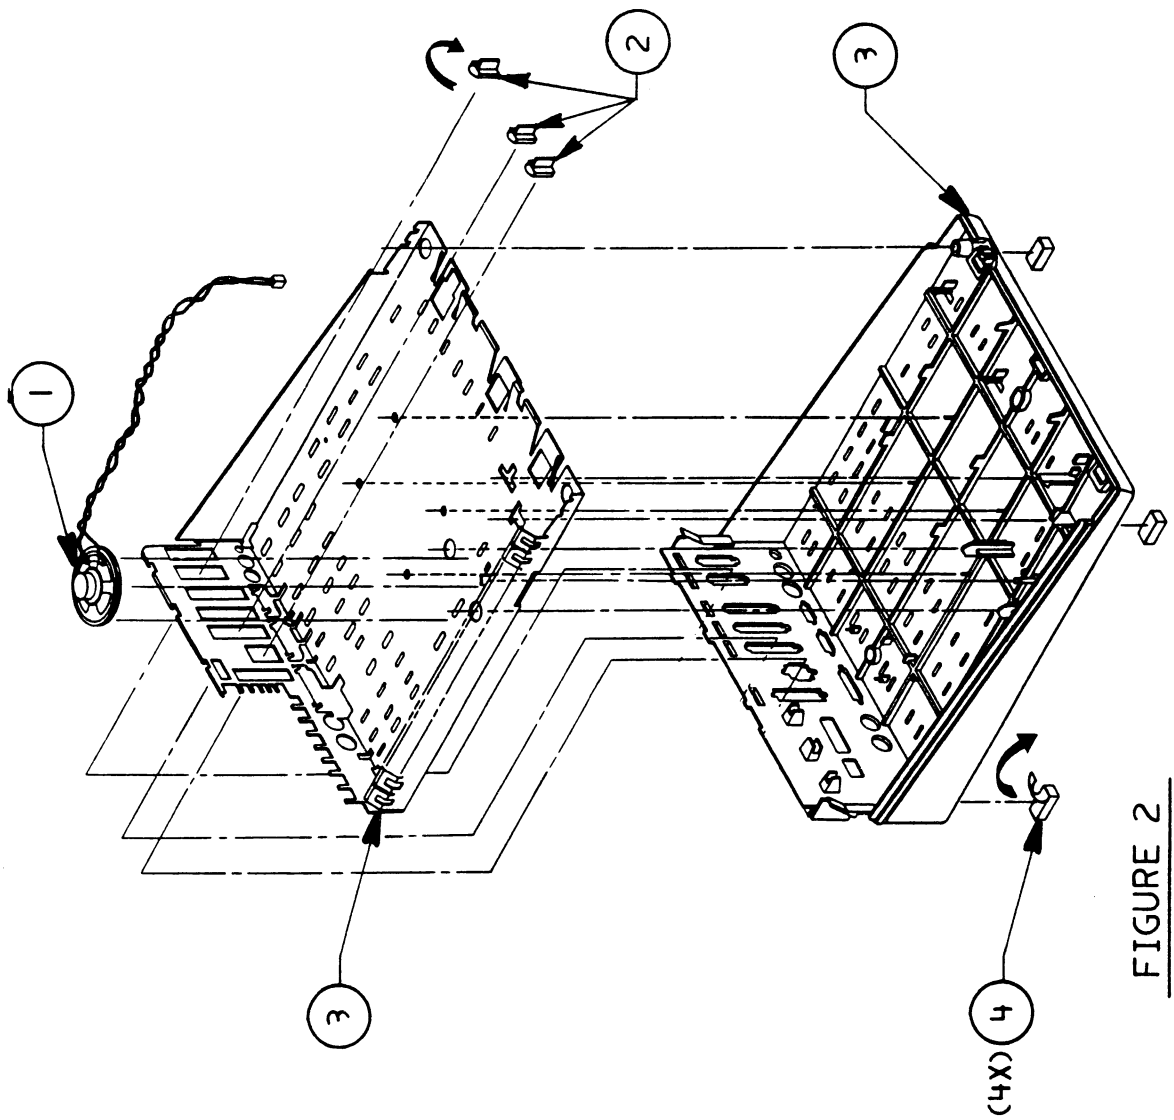

FIGURE 2
- 6.5 Base Assembly (Figure 2)
SEE FIG. 2
□ APPLE IIgs – BASE ASSEMBLY (Figure 2)